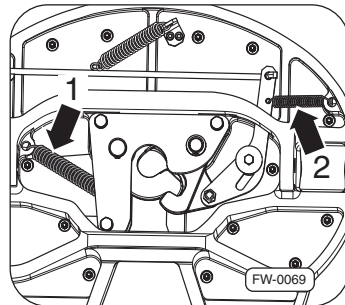

Fig. 30 · Unhook the spring
2. Unhook the lock springs ⇒Fig. 30, -arrow 1- and handle -arrow 2-.